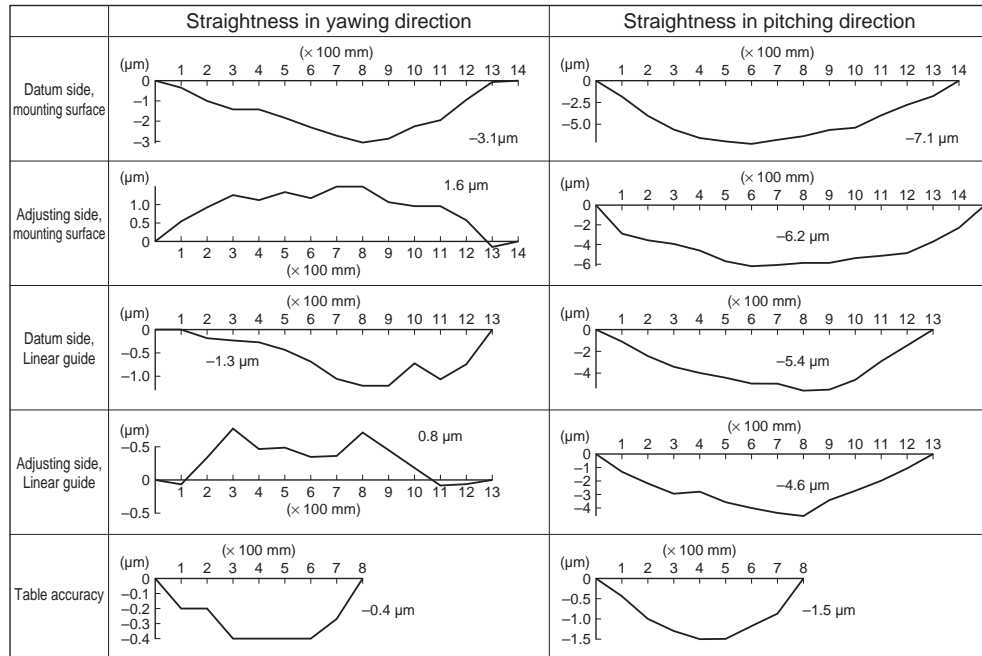

Fig. 9.9 Straightness of the table equipped with linear guide
- Fig. 9.9 shows an actually measured straightness of the table which uses NSK linear guide. In this case, the final straightness of the table is about 1/5 of the straightness of the mounting face.